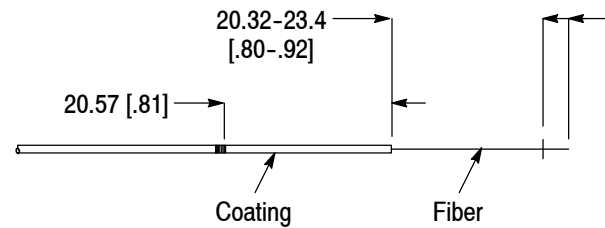

Figure 6
2. Using the micro-strip stripper, remove the buffer and the coating from the fiber within the dimensions given in Figure 6. Several strips might be required to remove all of the buffer and coating.
2. Using the fiber combination strip tool, strip the fiber coating within the dimensions given in Figure 6.
3. Mark the fiber coating behind the fiber coating interface to the dimension given in Figure 6.